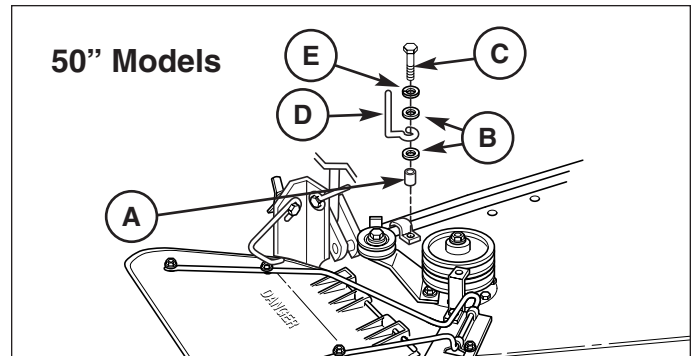

Figure 7. Install Belt Guide
1. See Figure 7 & 8. Locate the taptite screw that will be replaced by capscrew (C). Remove and discard the taptite screw
2. Assemble the 5/16-18 x 1-1/2 capscrew (C), lock-washer (E), washers (B), belt stop (D) and spacer (A).
Note The belt stop (D, Figures 7 & 8) is located and oriented differently in 44" and 50" applications. For all applications, when turbo is installed, belt stop (D) should be outside the belt 1/8" away from the backside of the belt.
NOTE: The deflector latch **MUST** secure the deflector in a down position—as shown in Figure 7.